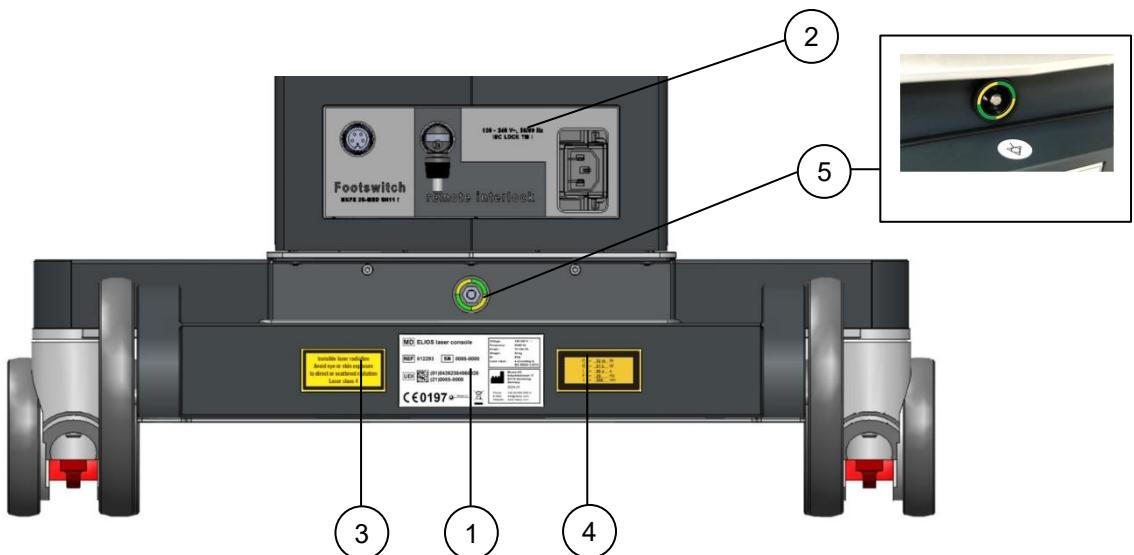

Fig. 2-1: Backside view
1.	<p>The identification plate is located on the backside of the laser (see Fig. 2-1).</p> <p>The symbols used mean:</p> <p>MD Medical device</p> <p>REF Catalogue number</p> <p>SN Serial number</p> <p>UDI Unique Device Identifier</p> <p>~ Alternating current</p> <p>IP IP protection class</p> <p>Manufacturer and date of manufacture (YYYY-MM)</p> <p>CE0197 CE marking of conformity with number of Notified Body</p> <p> see 6</p> <p> electronic instructions for use available</p>
The label is located on the backside of the laser (see Fig. 2-1).
3.	<p>The ELIOS laser console generates class 4 laser radiation. Neither eye nor skin should be exposed to this invisible radiation.</p> <p>The label is located on the backside of the laser (see Fig. 2-1).</p>
4.	<p>The laser radiation output information is specified on the pictured label.</p> <p>The label is located on the backside of the laser (see Fig. 2-1).</p>
5.	<p>Connector for electrical potential equalization.</p> <p>The label is located on the backside of the laser (see Fig. 2-1).</p>